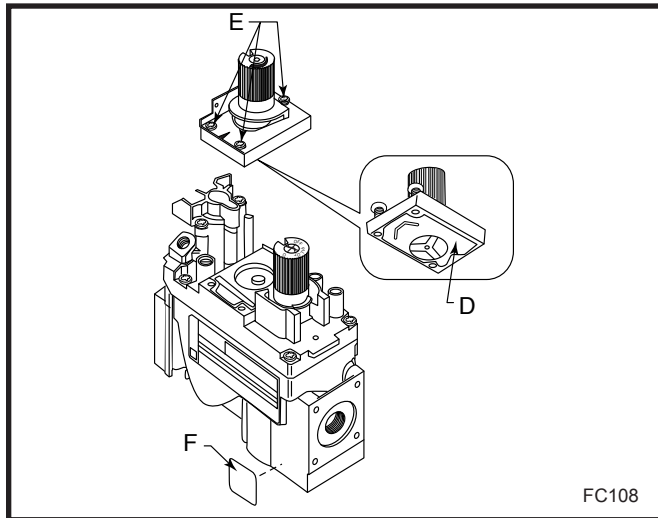

Fig. 29 Replace regulator.
2. Insure the rubber gasket (D) is properly positioned and install the new HI/LO pressure regulator assembly to the valve using the new screws (E) supplied with the kit. Tighten the screws securely. (Ref. torque = 25 in/lb) (Fig. 29)
3. Install the enclosed conversion label (F) to the valve body where it can easily be seen. (Fig. 29)